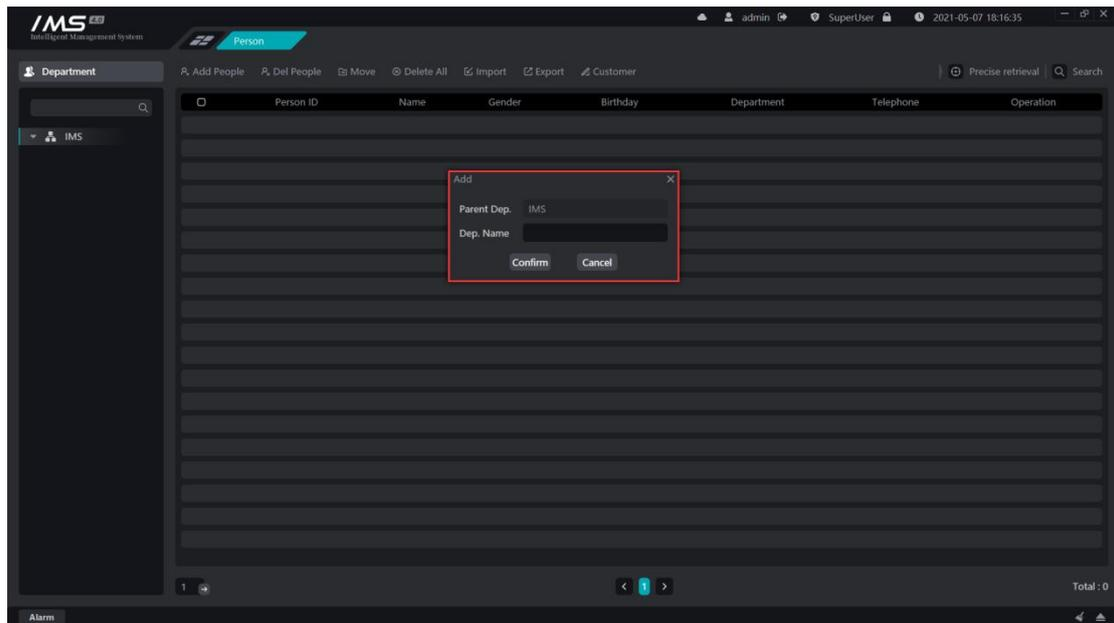

Figure 3-2
- (1) the mouse covers the department node.
- (2) Click [+ Open the add department page, as shown in figure 3-2.
- (3) enter the name of the department.
- (4) Click [OK].